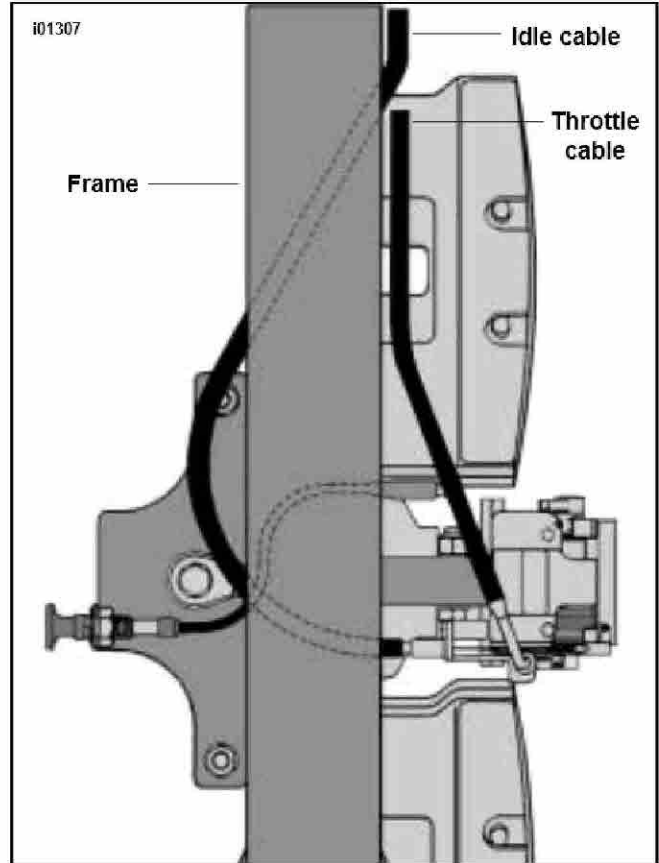

Figure 2. Cable Routing At Engine
2. See Figure 2. Route the cables along right side of frame identical with stock routing until idle cable reaches front cylinder head. Route idle cable as shown.